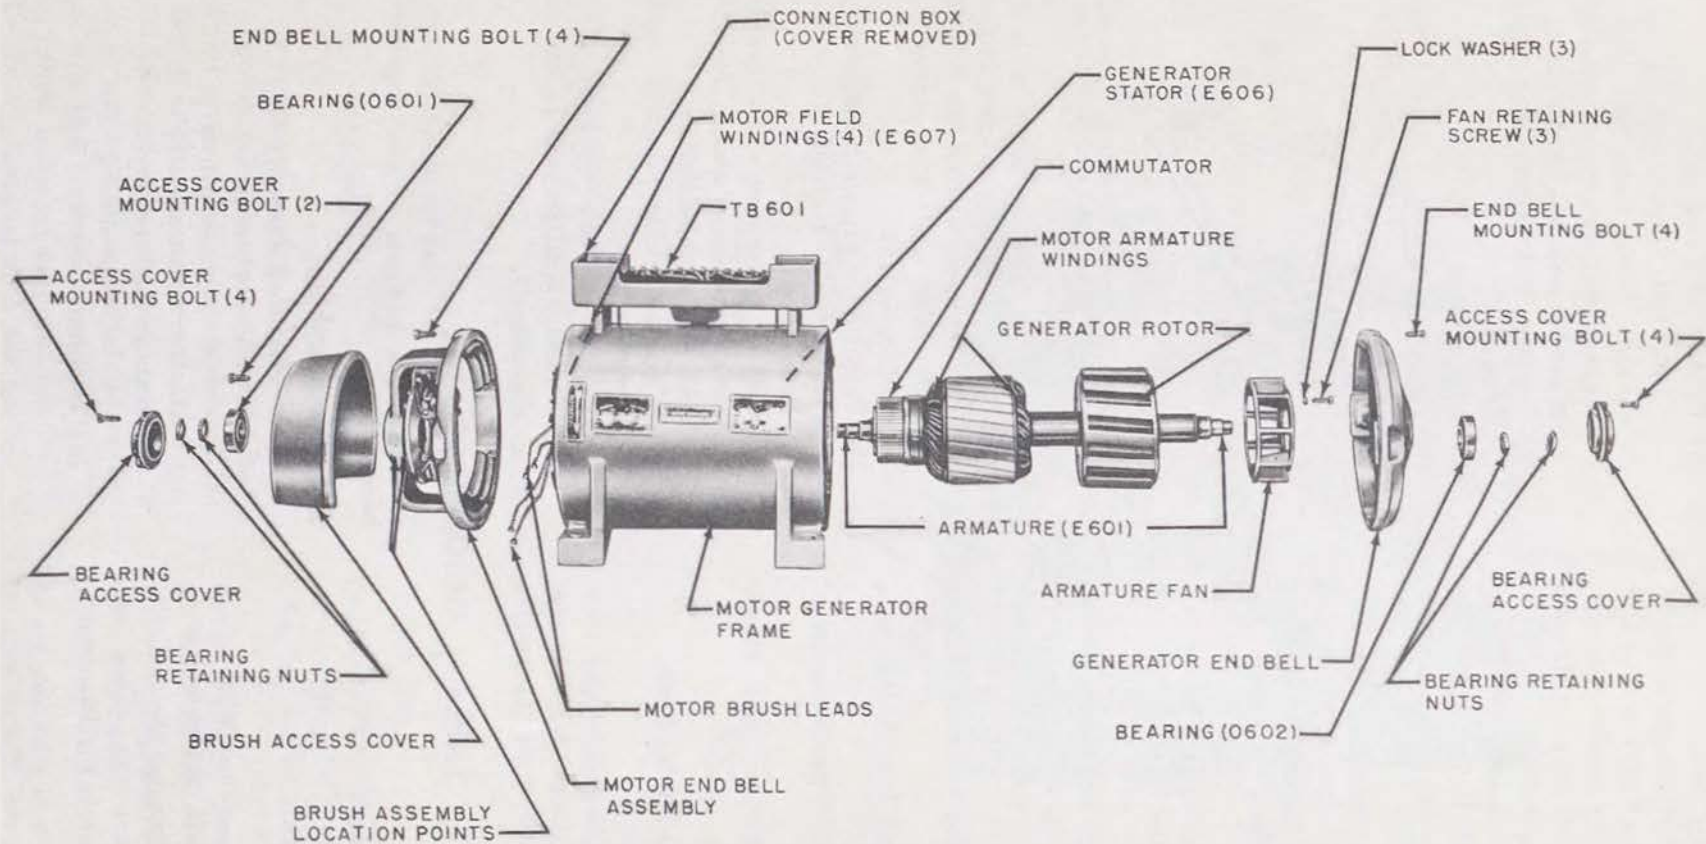

Figure 202. Motor generator, exploded view.
a. *Motor End Bell Assembly* (fig. 202).
- (1) Remove the bearing access covers at each end of the motor generator by removing the four access cover bolts in each cover.
- (2) Remove the brush access cover by removing the two mounting bolts.
- (3) Disconnect the four field winding leads and two filter capacitor leads by loosening the four terminal screws. Tag the
- (5) Apply two box wrenches to the bearing retaining nuts (fig. 202) at each end of the shaft. Turn the wrench at the motor end of the shaft in a counterclockwise direction, turn the other wrench in the opposite direction to prevent the armature from rotating. Keep turning the wrenches until the outer bearing retaining nut is removed from the motor end of the shaft. Repeat the procedure to remove the inner bearing retaining nut.
- (6) Remove the four brushes from their brush holders. Leave the pigtail leads attached to their respective terminals.
- (7) Remove the four end bell mounting bolts.
- (1) Remove the armature by lifting it slightly and withdrawing it from the frame at the generator end of the machine (fig. 202). Use extreme care when performing this operation to avoid damaging the armature. Avoid striking armature against the field poles and field winding.
**Caution:** The diameter of the rotor is greater than the diameter of the motor armature (fig. 202). Therefore, the
- (4) Blow out all carbon, mica, and copper dust that has accumulated in the grooves.
*f. Disassembly of Connection Box and Terminal Board TB601 (fig. 202).*
- (1) Remove the four cover mounting bolts and remove the cover.
- (2) Loosen the terminal screws and remove the leads. Tag all leads to avoid confusion at reconnection.
- (3) Remove the two retaining screws at each end of the terminal strip.
- (4) Remove the terminal strip and black insulating sheet.
- (5) Remove the mounting bolt in each block insulator and lift out the blocks.
- (6) Lift up the connection box and carefully draw the free leads through the clearance hole.